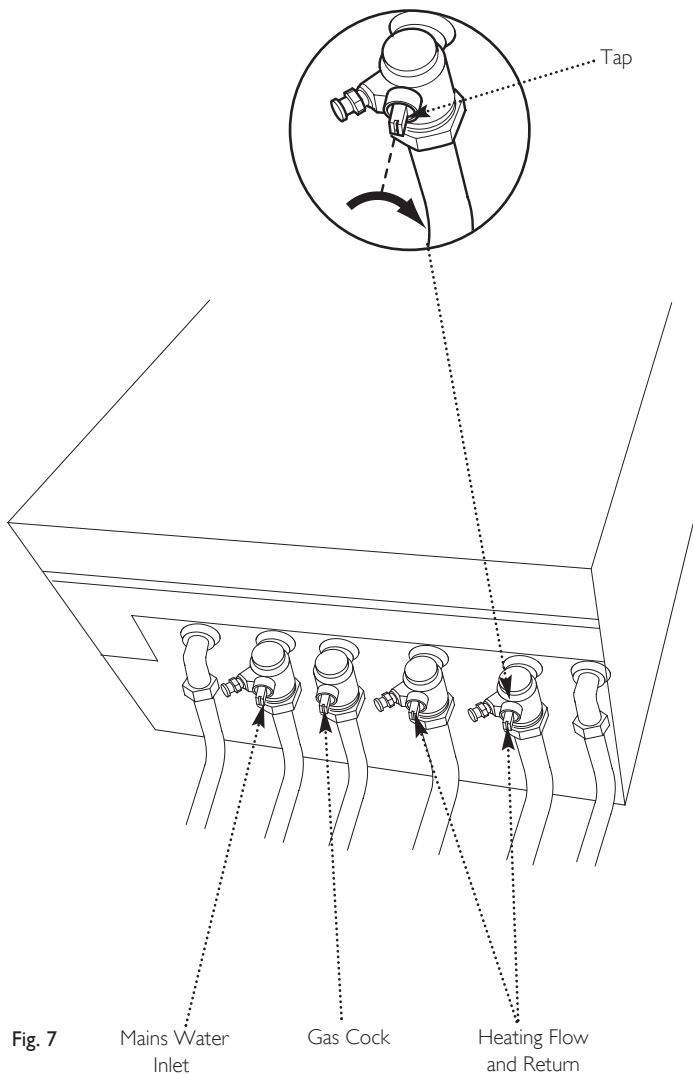

Fig. 7
Turn off the gas supply at the meter and call your gas supplier immediately. It is possible to isolate the boiler and at the isolating valve (Fig. 7).
2. Using a suitable flat bladed screwdriver turn the tap on the gas cock 90° clockwise to isolate the gas supply at the boiler (Fig. 7).
3. The heating system and mains water isolating valves are positioned under the boiler and can be closed by turning their taps 90° clockwise (Fig. 7).